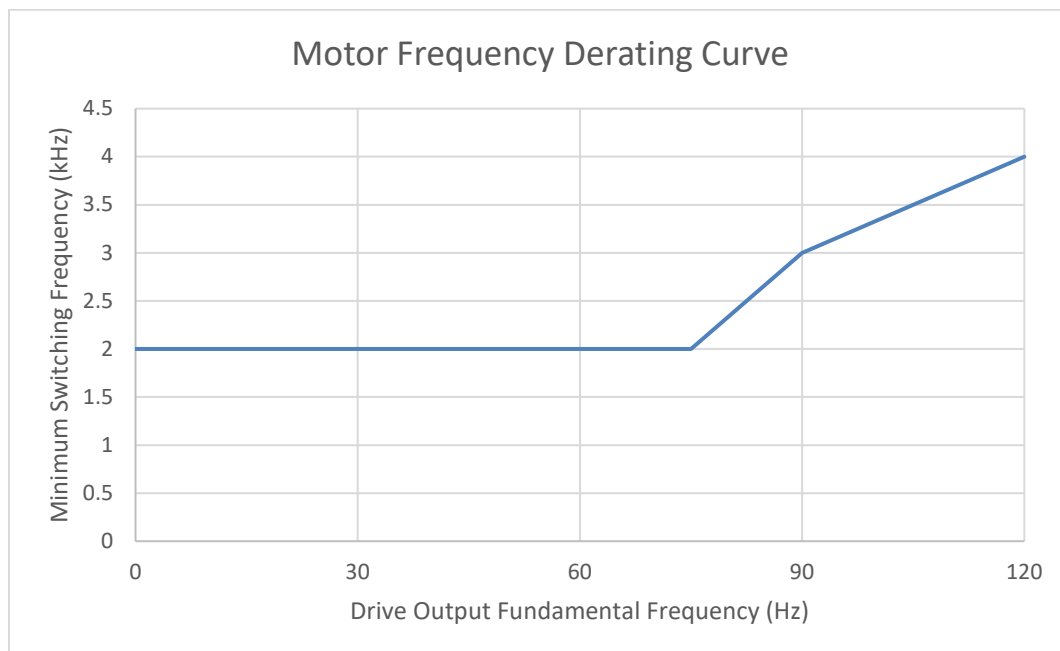

Figure 3-4: Motor Frequency Derating
- ☐ **Drive Output Frequency:** Support for 6Hz to 75Hz without derating, >75Hz to 120Hz with derating. See Figure 3-4: Motor Frequency Derating (p10) for derating curve.